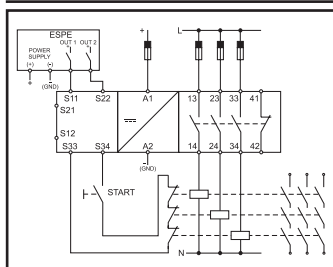

Fig. 3: ESPE: 2 uscite PNP a 1 filo /
- terminal, leaving S12 and S21 terminals not connected (fig. 3, 4 max. Safety cat. 4 PL: e).
In Fig. 3 and 4 are shown the connections of ESPE with 2 one-wire outputs: the ESPE outputs are connected to S11 and S22.